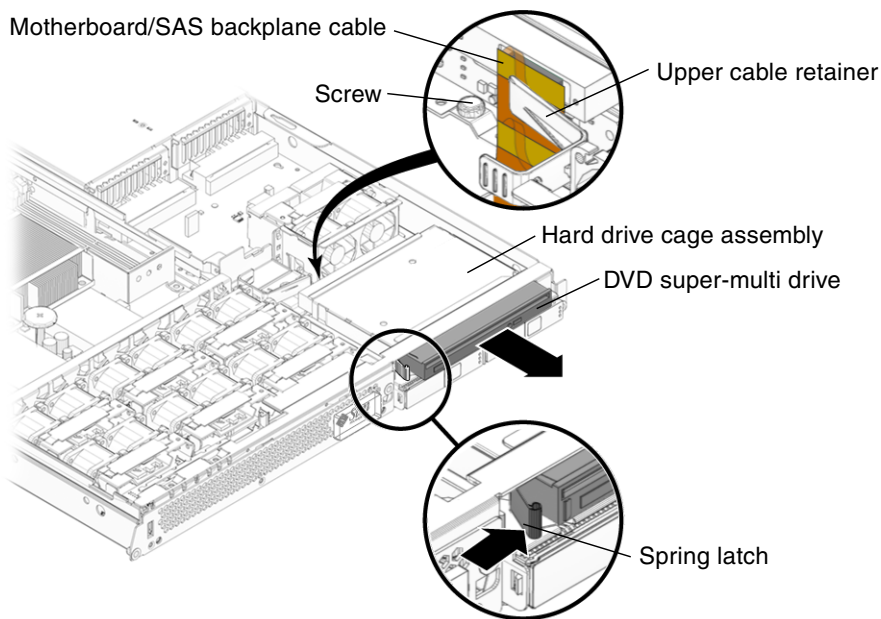

FIGURE 3-31 Upper Cable Retainer, Motherboard/SAS Backplane Cable, DVD Super-Multi Drive, and Spring Latch
5. **Remove the upper cable retainer (FIGURE 3-31).**
7. Push the spring latch to the right and hold (FIGURE 3-31).
3. Connect the motherboard/SAS backplane cable to the DVD super-multi drive (FIGURE 3-31).
4. (Sun Fire V215) Install the screw that secures the hard drive cage assembly to the chassis (FIGURE 3-31).